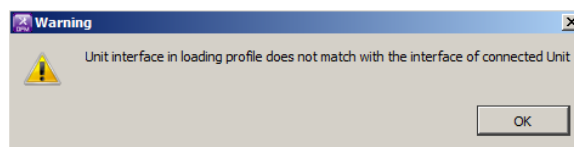

Figure 33 — Warning on interfaces incompatibility of profiles of loaded and connected Unit
**ATTENTION:** When there is an active connection between DFM Marine and PC it is possible to load profile from file of only the same interface as connected Unit. Otherwise the warning message will appear (see figure 33).